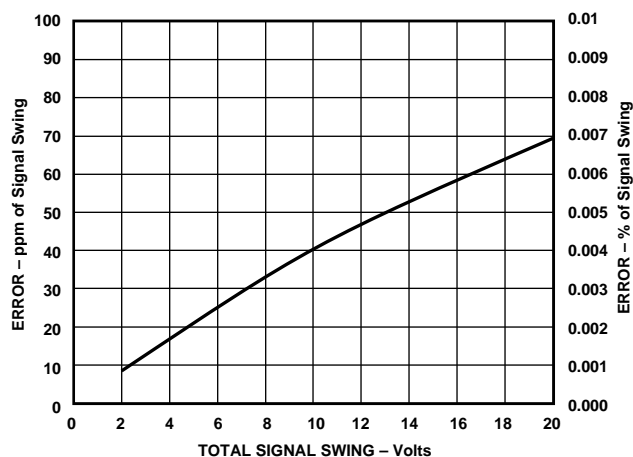

Figure 13. Gain Nonlinearity vs. Output Swing
**Gain Nonlinearity vs. Output Swing:** The gain nonlinearity of the AD210 varies as a function of total signal swing. When the output swing is less than 20 volts, the gain nonlinearity as a fraction of signal swing improves. The shape of the nonlinearity remains constant. Figure 13 shows the gain nonlinearity of the AD210 as a function of total signal swing.